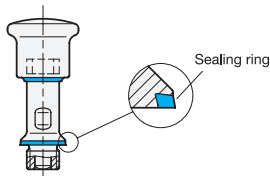

Fig. 1
- Defekte Dichtringe müssen ausgetauscht werden (Abb. 1). Verwenden Sie nur die speziellen Dichtringe in entsprechender Größe (GN 7600).
- It must be noted that the indexing plunger may only be used in combination with the supplied sealing ring. The seal has a conical shape. The correct installation position must therefore be observed (Fig. 1).
- The installation position as seen in Fig. 1 guarantees that liquids will run off on their own.